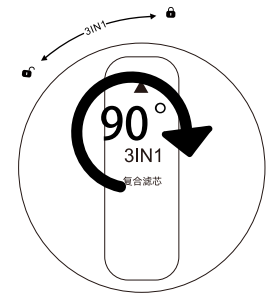

Figure 7
6. Gently press the filter element and rotate it 90° clockwise, ensure the triangle icon on top of filter element is pointed at  icon, See **Figure 7**.